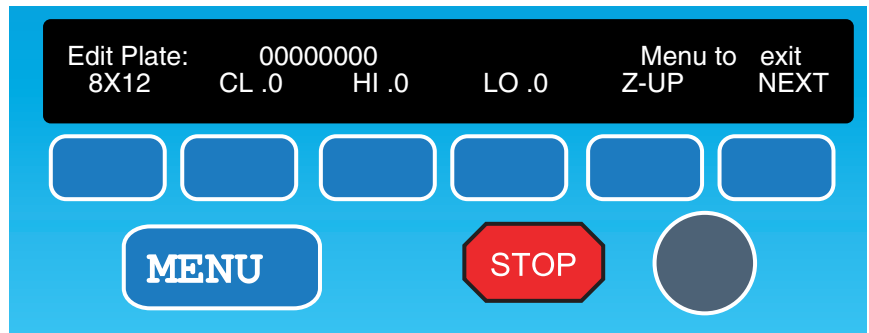

Figure 7-17: The **Edit Plate** screen.
- 4) After the name is entered, press the **CREATE** softkey to advance the screen to the **Edit Plate** menu screen (Figure 7-17).